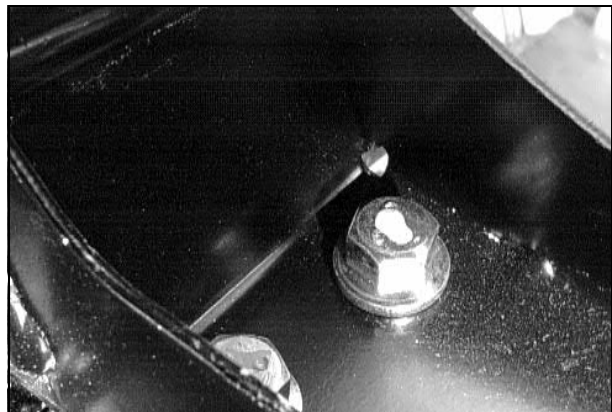

Fig. 26
31. Place a large floor/transmission jack under the engine assembly; then remove the upper four cap screws securing the sub-frame to the frame. Place the engine assembly on a suitable work stand and remove the wheels, (Fig. 26).